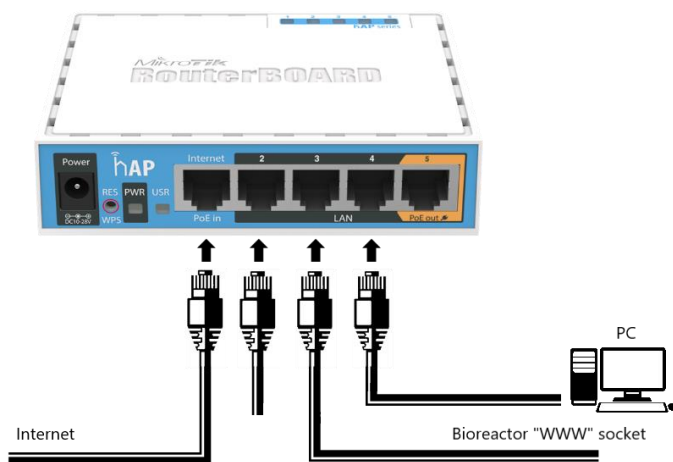

Figure 0.12. Schematic of the Ethernet connections.
- 3) Connect the router with the control unit by an Ethernet cable. One end of the Ethernet cable should be plugged into either the 2, 3 or 4th port of the router. The second cables end should be connected to the control units WWW port, which is located on the rear panel (see Figure 0.12).
- 4) **To control the bioreactor from a PC** it is necessary to establish a connection between the bioreactor and the PC. It can be done with a cable (see Figure 0.12), or through WiFi (see settings here below)